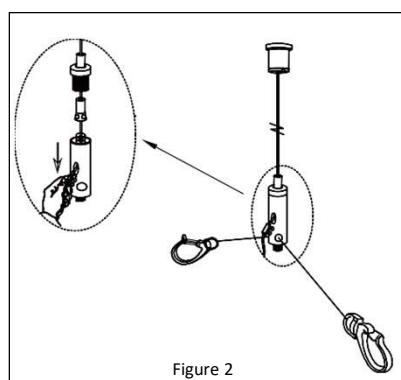

Figure 2
- Adjust the length of each cable. **See Figure 2.**